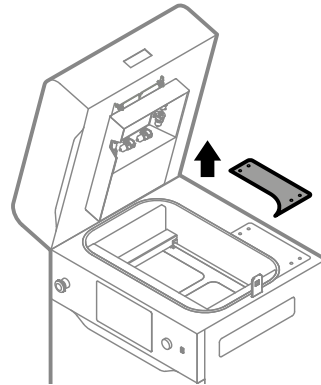

Fig. 13.58 Remove the access panel.
7. Remove the access panel on the top side of the printer (fig. 13.58).